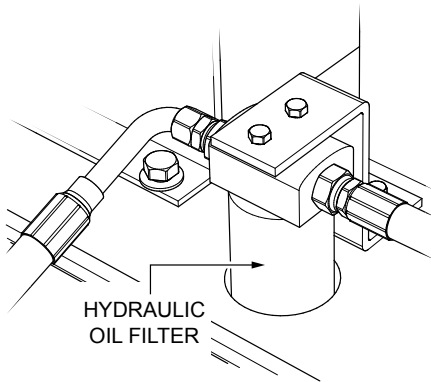

Figure 40. Hydraulic Oil Filter
1. Replace the hydraulic oil filter (Figure 40) every 200 hours. Replace with only recommended type filter.